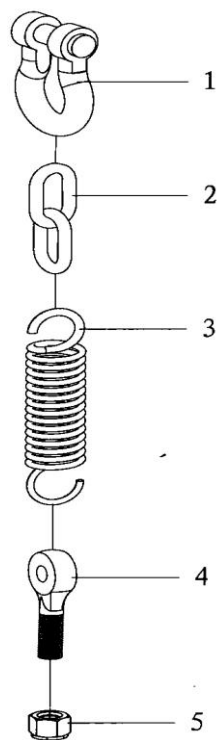

Fig. 7-21
21. Assembly of suspension chain (Fig 7-21, Table 21)